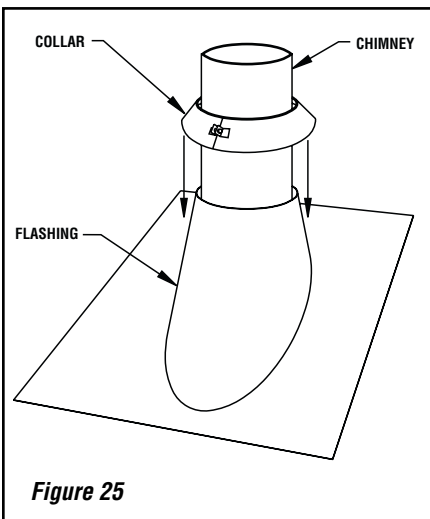

Figure 25
4. Put the roof flashing in place and seal the joint between the roof and the flashing with roofing pitch (see Figures 25 and 26). For sloping roofs, place the flashing under the upper shingles and on top of the lower shingles. Nail the flashing to the roof, using roofing nails.